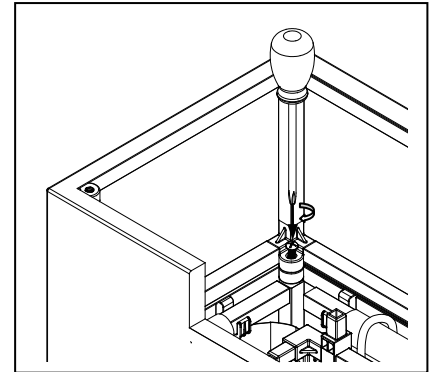

Fig. 3
3. Fasten the two sections together with the bolts on upper section. Fig. 3